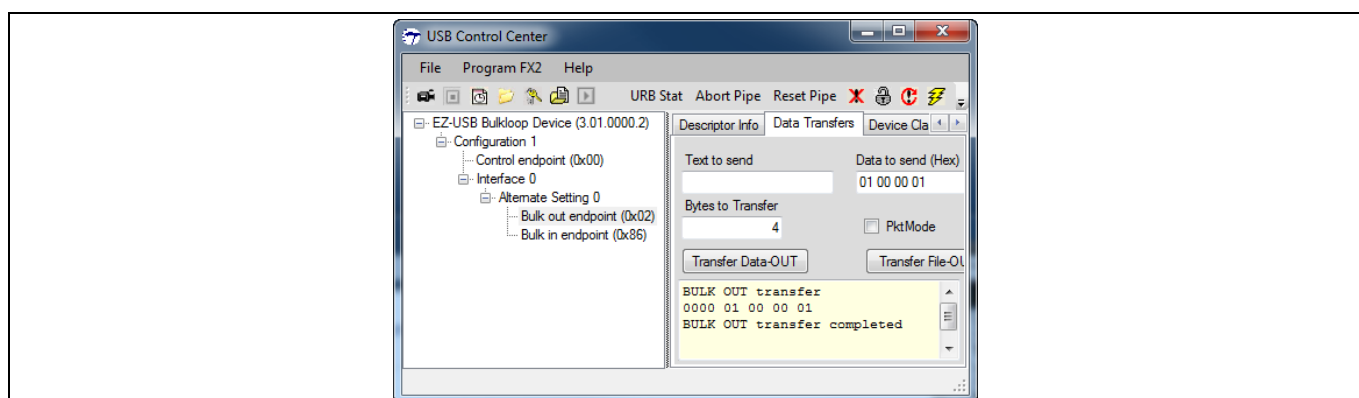

Figure 53 USB Control Center Transfers Data
5. In the **Data to send (Hex)** textbox enter the number, as shown in Figure 53.